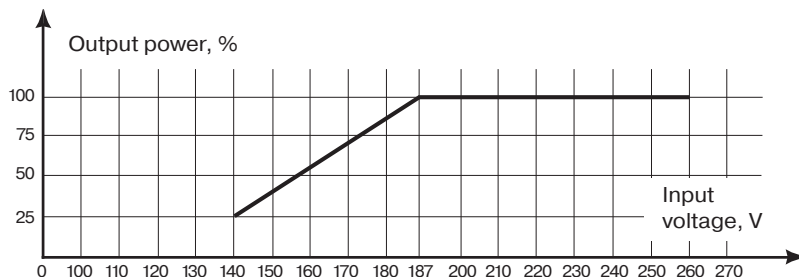

Fig. 7.
**Attention!** When choosing an AVR, it is important to remember to consider that reduction of input voltage increases value of input current, which means that maximum power of AVR is reduced too! Such dependence is shown in the graph (Fig. 7).
- Switch on the circuit breaker ⑦ to turn the stabilizer on. When the stabilizer turns on green LED «Working» gets activated. The digital LED display ① starts the countdown to actual issue of connected power load, while the red LED «Protecting» blinks. You can choose delay time of powerload issue by pressing Delay button ⑥ on the front panel. After the pause output voltage is applied to the output terminals and indicated on the LED display ①. By pressing the «I / O» button ⑤ select indication of the display input or output voltage to be displayed. Input voltage is displayed via blinking indication.
- When AVR ups or downs voltage, the input voltage indicator will glow with yellow LED «Regulating» ③.
- In case of overload or short circuit the thermal fuse ⑦ is triggered. After fixing the cause of overload turn on the stabilizer.
- When the stabilizer input voltage is higher than 275 V or below  $140\text{ V} \pm 3\%$  the regulator disconnects the load. At the same time LED operation indicator displays «H»/«L» sign (high / low input voltage). On the front panel «Protecting» indicator ④ lights up.